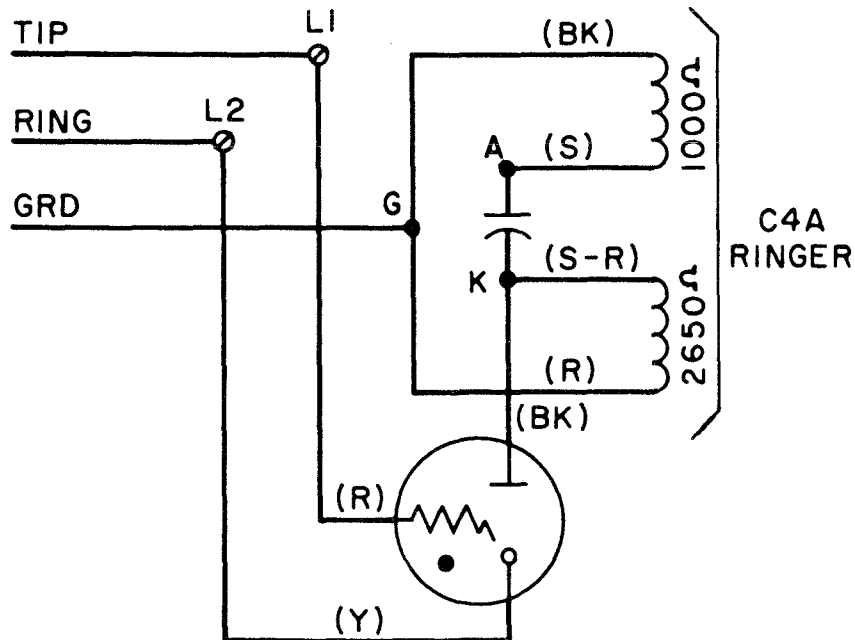

Fig. 1 - Tube Connections for 556-Type Telephone Set at Negative Ring Station
- 2.02 Fig. 1 shows these tube connections using the 556-type telephone set as an example.